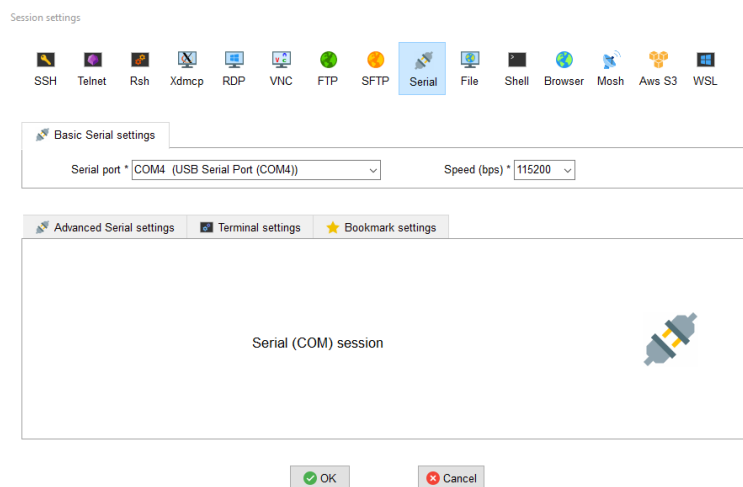

Figure 4: Open Serial Connection to COM4
- (a) Open a new terminal and source settings64.sh. We will need a terminal with a serial connection through your computer's USB port to watch the output from the ZYBO Z7-10 board. To make this connection, open MobaXterm and select "Session" and then the "Serial" button. Under "Serial Port" type "COM4" and under "Speed" type "115200". Your window should look like Figure 4. Click "OK" after connecting and turning on your Zybo board.